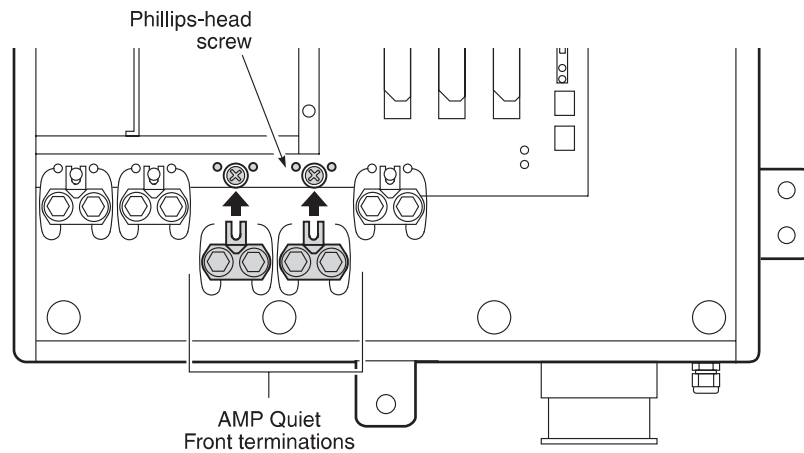

Figure 7. Installing Doubler Termination Points
- 8.7 Auxiliary Power Pairs.** When PG-Flex is used with a doubler, install the two AMP Quiet Front terminations (PN 150-1399-25) and wire for the doubler. The installation kit provides white and blue jumper wires. Install the two AMP Quiet Front terminations into the FRE-765 (Figure 7) enclosure: